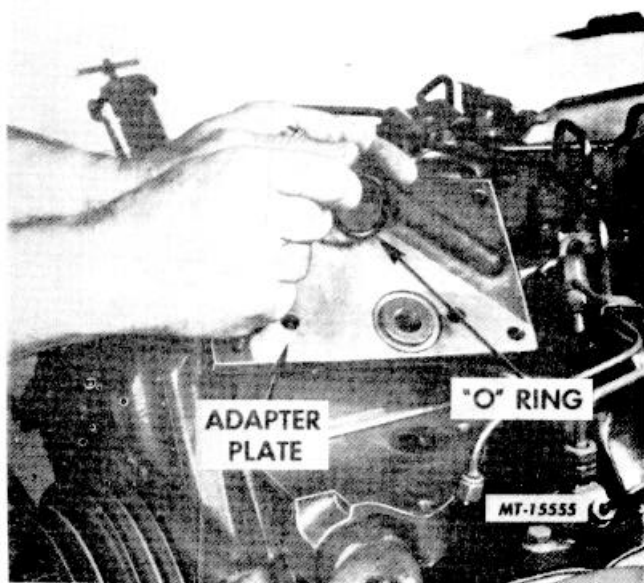

Fig. 30 Removing Air Compressor Adapter Plate and "O" Ring
- Loosen three capscrews and lockwashers and remove air compressor adapter plate and "O" ring from front cover (Fig. 30).